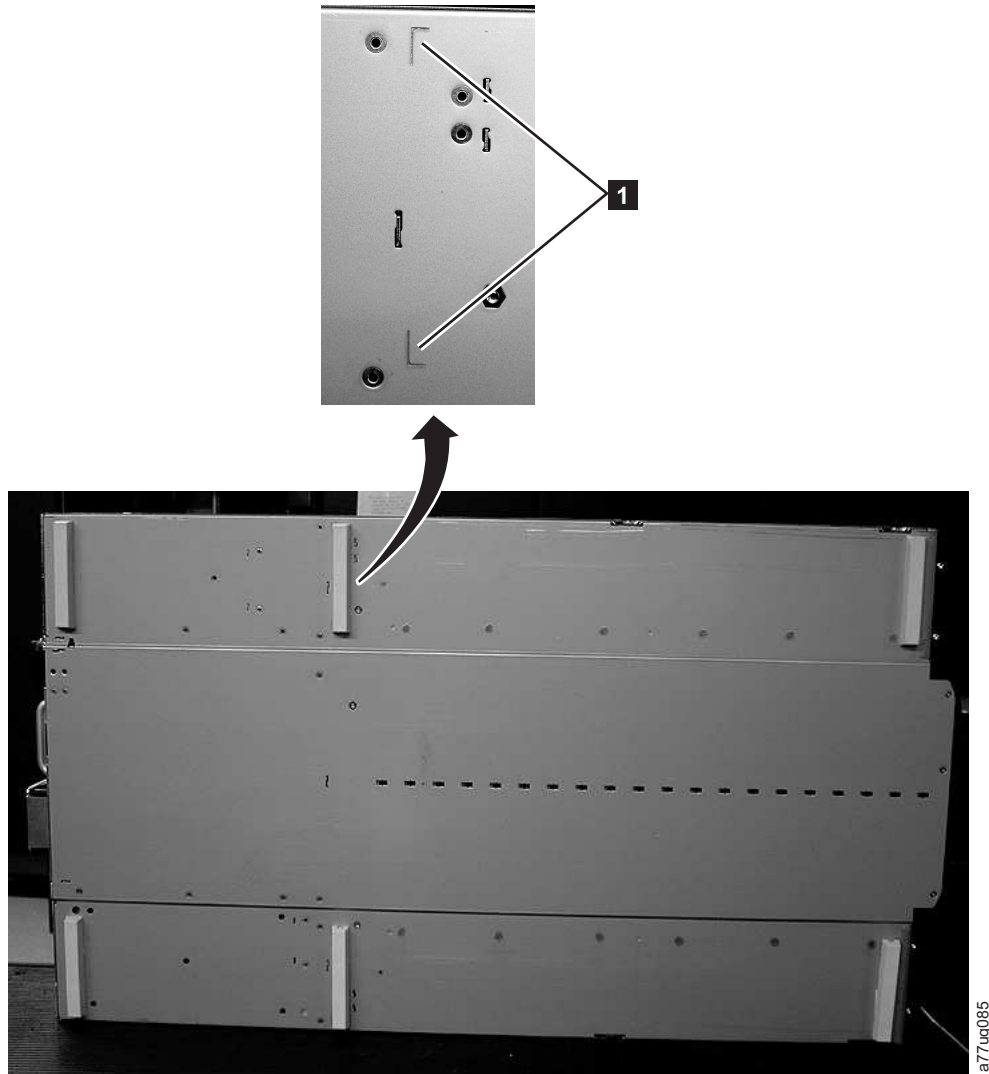

Figure 172. Foot pads that are installed on the bottom of the library enclosure
- 3) Install the foot pads on the bottom of the library enclosure by pressing each foot into one of the six areas (**1**) as shown in Figure 172 on page 235.